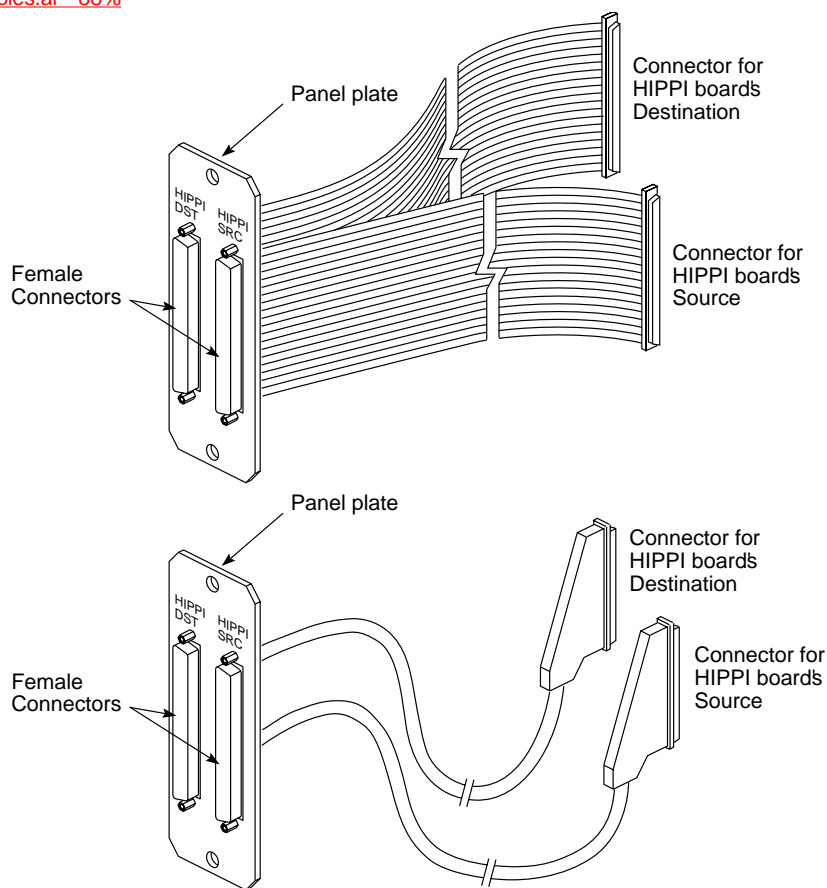

Figure 2-21 Internal HIPPI Cable Assembly (Two Different Styles)
1. Locate the internal cable assembly that consists of the HIPPI I/O panel plate with two internal HIPPI cables attached. The cable assembly is one of the styles shown in Figure 2-21.